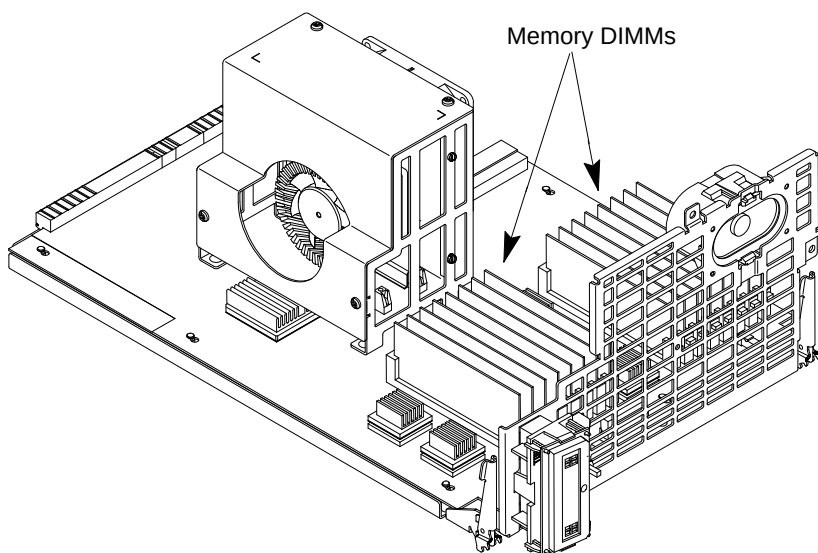

Figure 3. Memory DIMM Location
1. Locate the memory DIMMs in the system unit, as shown in Figure 3.